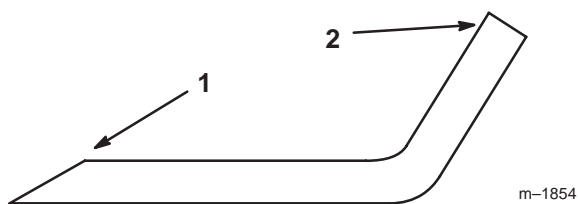
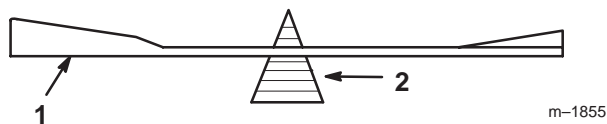

Figure 30
Figure 31
- Use a file to sharpen the cutting edge at both ends of the blade (Fig. 30). Maintain the original angle. The blade retains its balance if the same amount of material is removed from both cutting edges.
- Check the balance of the blade by putting it on a blade balancer (Fig. 31). If the blade stays in a horizontal position, the blade is balanced and can be used. If the blade is not balanced, file some metal off the end of the sail area only (Fig. 30). Repeat this step until the blade is balanced.